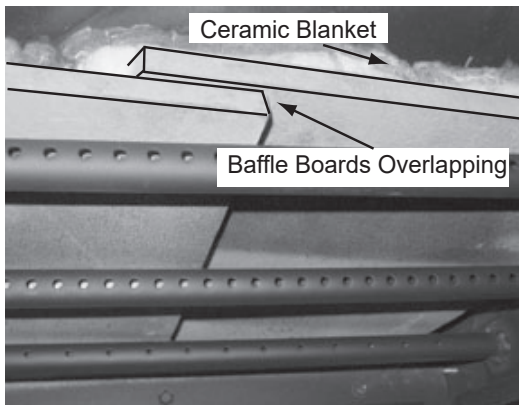

Figure 24.1
3. Once the baffle protection cover has been removed, pull the baffle boards and ceramic blanket forward about 1 inch (25mm) and then overlap the baffles about 1-2 inches (25-51mm) (**Figure 24.1**).